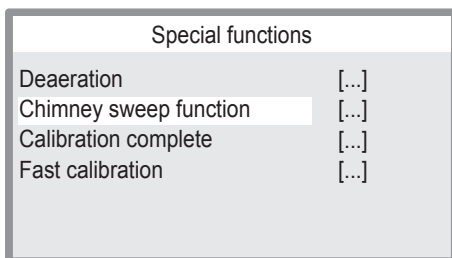

Figure 9.8
- 17 Press button "A" or "B" (Figure 9.4) to select the desired menu from those available (Figure 9.8).